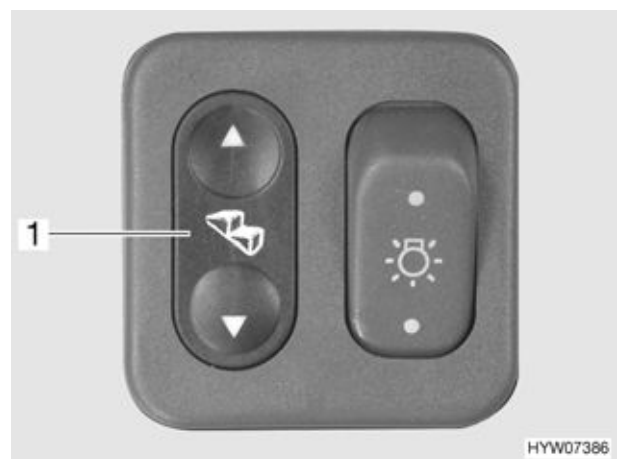

Fig. 2 Rocker switch for entrance step
- Press the rocker switch (Fig. 2,1) situated in the entrance area.